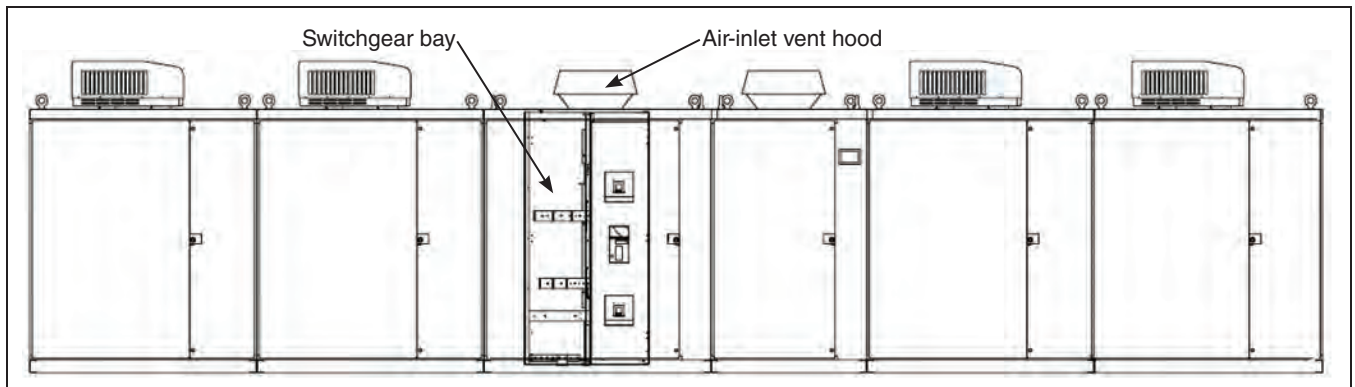

Figure 27. Location of the air-inlet vent hood.
- Inspect the air-inlet vent hood at the top of the switchgear bay. Clean any debris or obstructions that can restrict air flow going into the PureWave UPS System. See Figure 27 for an example of a 1000-kW PureWave UPS System.